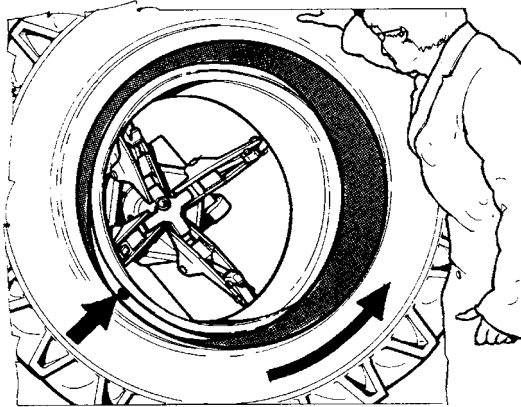

Fig.48
10. Place the hook tool as in fig.48. The edge of the hook should be about 1" (2-3 cm) away radially from the rim edge and about 1" (2-3 cm) to the outside.